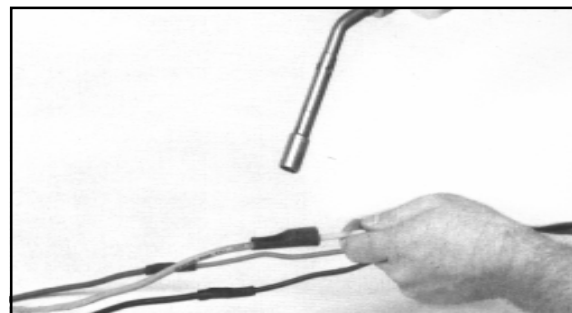

Figure 3
7. Center the shrink tubing over each wire connector. (See Figure 3)